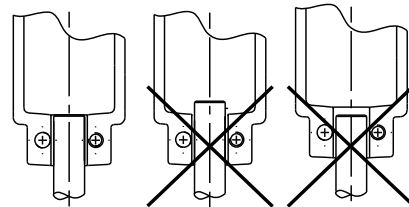

Fig. 19 Fitting coupling
1. With lifting straps that pass through the motor stool, lift and fit the motor and motor stool (pos. 1a) to the pump head (pos. 2). Ensure that the motor does not tip and the load is not applied to the pump shaft.
2. Cross-tighten screws (pos. 28).
3. Fit coupling (pos. 8), according to fig. 19 and 20, and tighten screws (pos. 9).